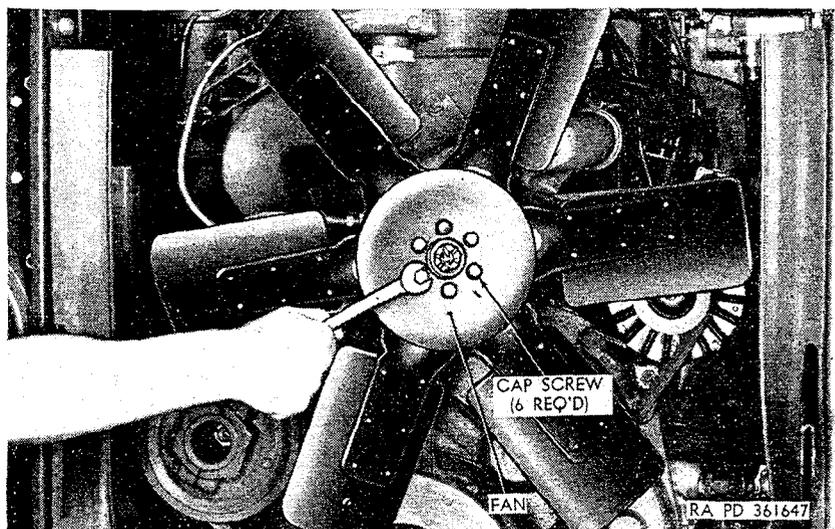

Figure 165. Front view of fan installed on fan pulley.
d. Fan. The six-bladed fan (fig. 165) is mounted on the front face of the fan pulley by six cap screws and lockwashers.
- (f) Remove six cap screws (fig. 165) and lockwashers securing fan to fan pulley hub, and remove fan.
- (a) Position fan (fig. 165) at front of fan pulley hub, and install six cap screws and lockwashers and tighten.